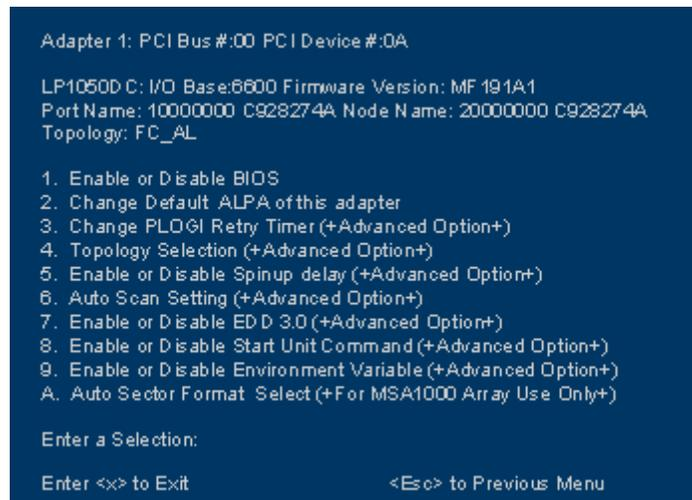

Figure 50: BIOS Utility, HBA Configuration Menu
- Press **2** to configure the HBA. The HBA configuration menu is displayed (Figure 50).